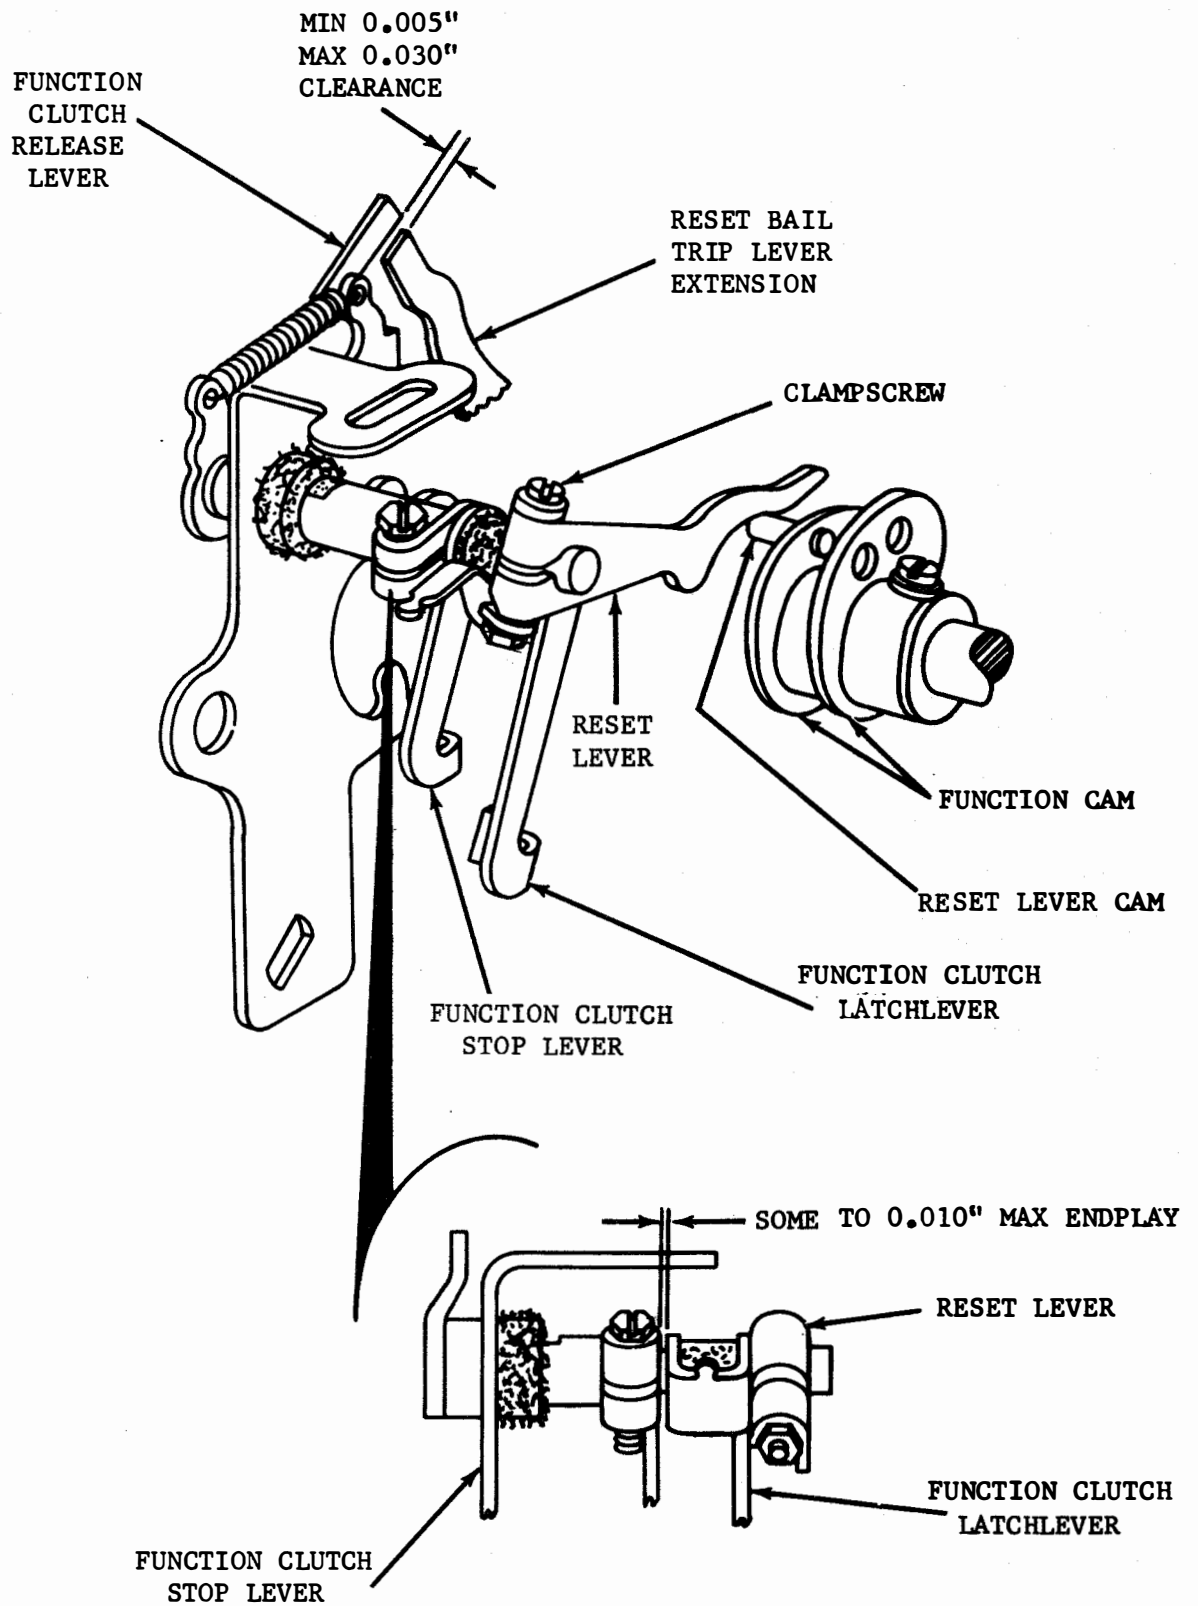

Figure 2
- (a) Requirement: With release lever resting on top of trip lever extension (Figure 2), the function clutch stop lever should engage the clutch shoe lever by the full thickness of the shoe lever.
#### 3.04 FUNCTION CLUTCH RESET LEVER AND LATCHLEVER (Figure 2)